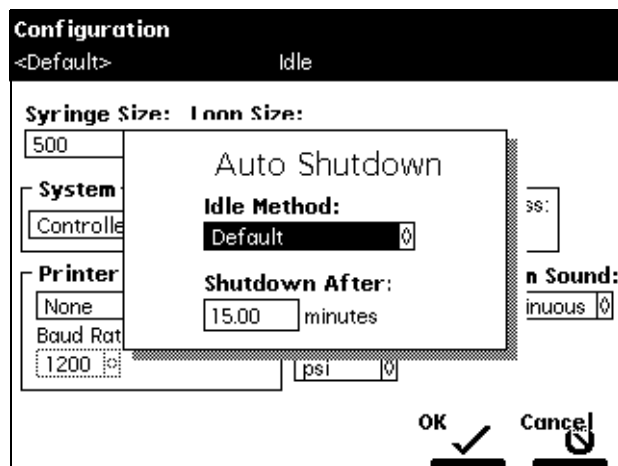

Figure 3-11 Auto Shutdown Dialog Box
2. Press the **Auto Shutdown** screen key. The Auto Shutdown dialog box appears (Figure 3-11).